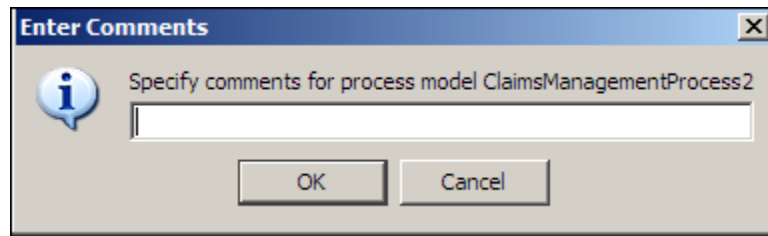

Figure 22: Enter Comments (Process Model)
1. Click **File** menu and then select **Save Process Model to Server**, to save the process model on the Adeptia Suite. This displays a screen confirming that the process model has been created successfully. If the comments property is enabled, then clicking **Save Process Model to Server** will display a screen where you need to enter comments related to creating the process model (see Figure 22).